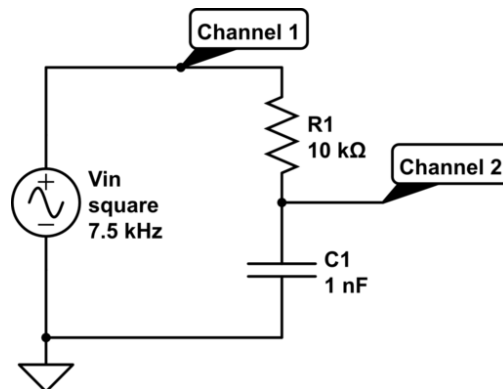

Figure 1: RC Circuit
You are going to use your scope to measure the time constant for the circuit in figure 1 and compare it to a direct calculation.
1. Build the circuit shown in figure 1, drive it with a 7-8 kHz square wave. (Make sure the duty cycle knob is turned to the "Cal" position.)